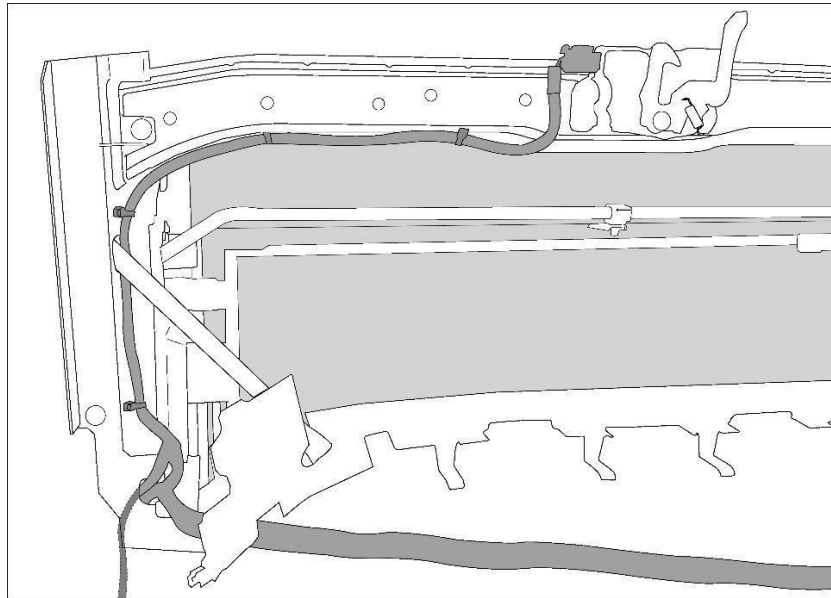

Figure 10 – Camera harness shown routed below, hood latch harness reattached to radiator support.
12. Route the camera harness back through the radiator shroud and let it hang beneath the truck for eventual connection to the bumper-side harness (Fig. 10).
12a. Route the hood latch end of the harness back up along the radiator support and secure with provided Christmas tree style zip ties (Fig 10).